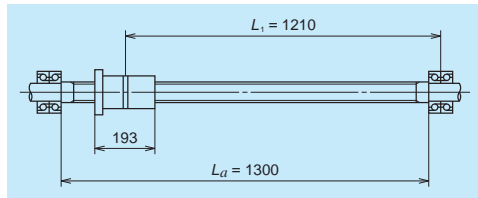

Fig. 16.4 Examination of buckling load
(1) Permissible axial load
Calculate buckling load for conditions shown in Fig. 16.4 with $P = 10354$ (N) and $L_1 = 1210$ (mm)